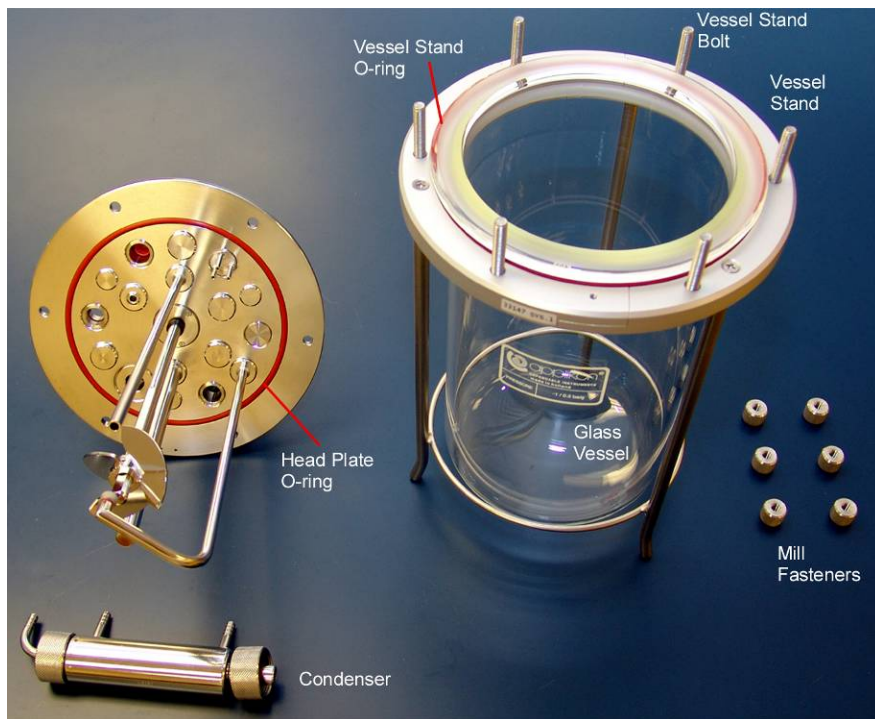

Figure 1: Vessel and Headplate
- 9.1. Figure 1: Vessel and Headplate